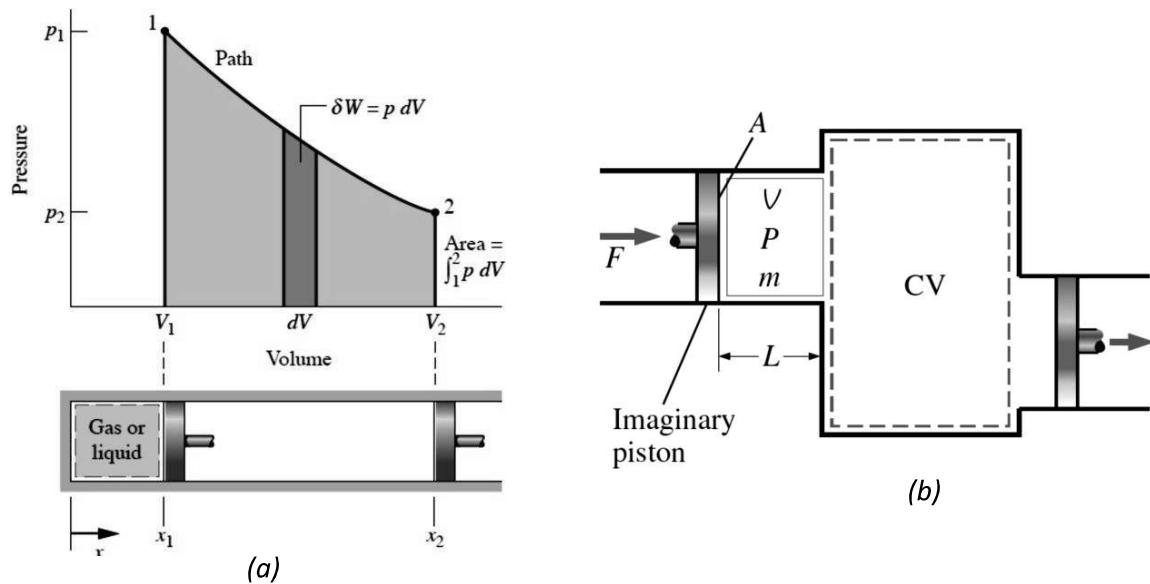

Fig. 1.11 (a) Displacement work and (b) Flow work
- Consider the gas enclosed in a frictionless piston cylinder arrangement as shown in Fig. 1.11. Let the initial gas pressure  $p_1$  and volume  $V_1$ . The piston is the only boundary which moves due to gas pressure. Let the piston moves out to a new final position 2, specified by pressure  $p_2$  and volume  $V_2$ . At any intermediate point in the travel of the piston, let the pressure be  $p$ , volume  $V$  and piston cross sectional area is  $A$ . When the piston moves through an infinitesimal distance  $ds$  in a quasi-equilibrium manner, the force applied on piston is,
- This work transfer during a process is equal to the area under the curve on a p – V diagram as shown in Fig. 1.11 (a).
- Consider a fluid element of volume V, entering the control volume through a cross-sectional area A as shown in Fig. 1.11 (b).